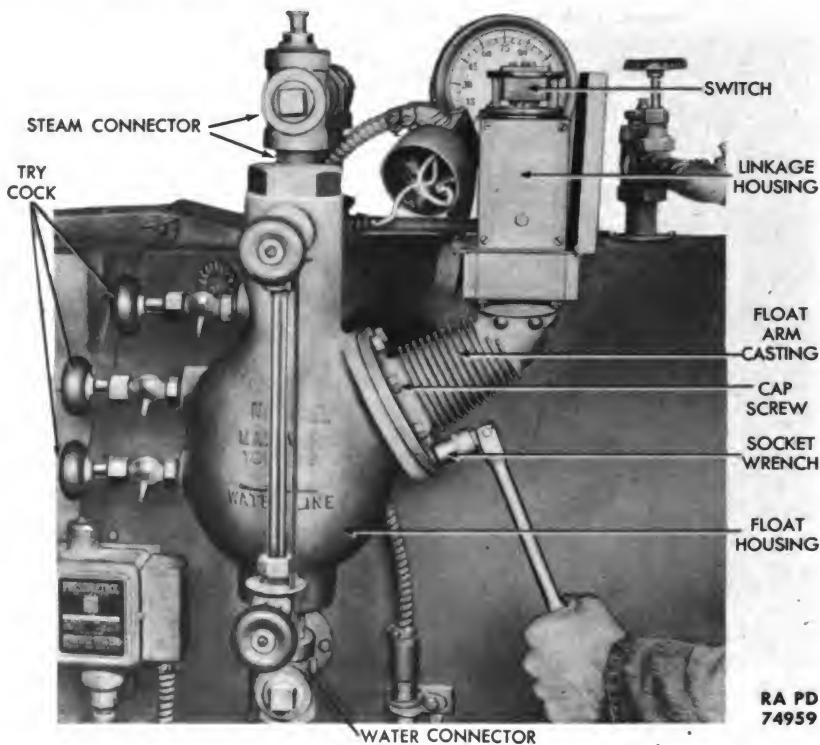

Figure 119 — Removing Steam Generating Plant Low Water Control
h. Low Water Control (fig. 119).
(1) REMOVAL (fig. 119).
(4) INSTALLATION (fig. 119).